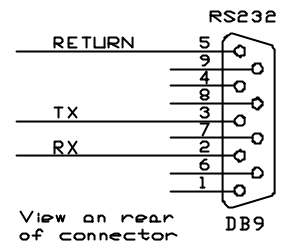

Figure 6
- 3.8.2 The connector pin allocations are given in Figure 6.